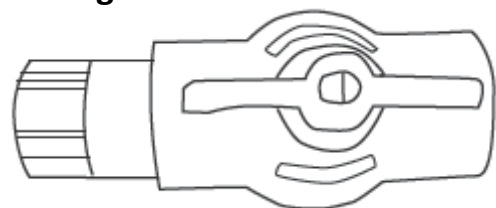

Figure 16
B.) After the glue is applied quickly insert the PVC fitting into one end of PVC ball valve as shown in Figure 16.